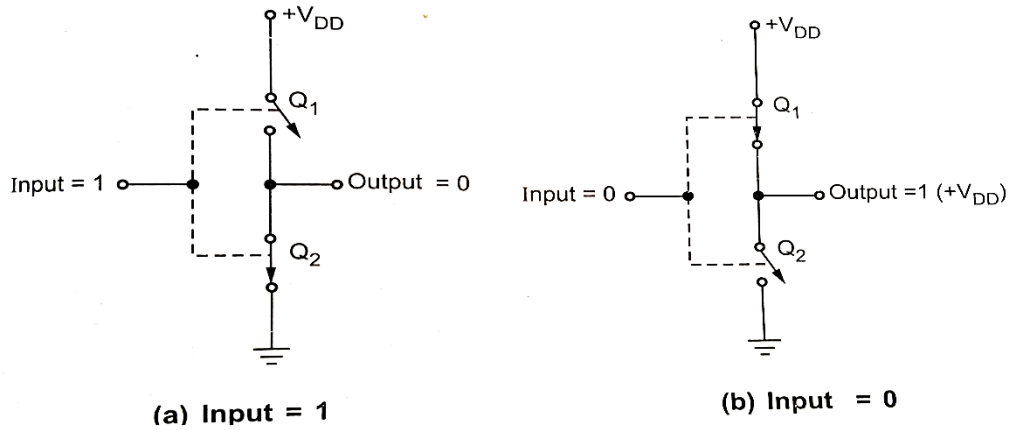

Figure 1.27: Operation of CMOS inverter for both input conditions
- When input is HIGH, the gate of Q1 (p-channel) is at 0V relative to the source of Q1 i.e $V_{gs1} = 0V$. Thus, Q1 is OFF. On the other hand, the gate of Q2 (n-channel) is at $+V_{DD}$. Thus, Q2 is ON. This will produce $V_{OUT} = 0V$, as shown in figure 1.27 (a)
- When input is LOW, the gate of Q1(p-channel) is at a negative potential relative to its source while Q2 is ON and Q1 is OFF. This produces output voltage approximately $+V_{DD}$, as shown in the figure 1.27 (b).